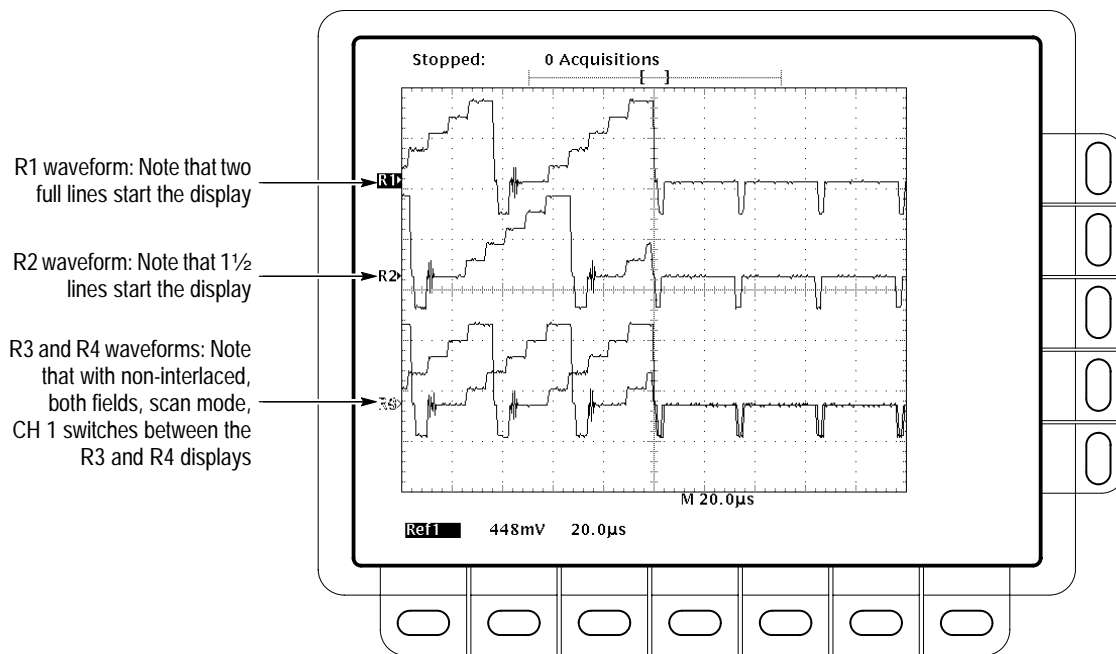

Figure 4–19: Measurement of Video Sensitivity
- CHECK that a stable trigger is obtained while alternating between field 1 and field 2. (If the last line is alternating between a full TV line and  $\frac{1}{2}$  a line in duration ( $63.5 \mu\text{s}$  and  $31.75 \mu\text{s}$  respectively), then triggering is occurring on both fields — see waveforms R3 and R4 in Figure 4–19.)